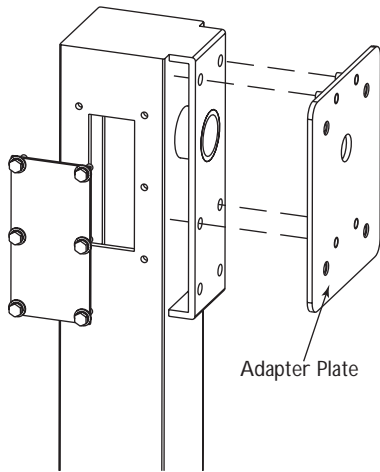

Figure 9 Aligning Adapter Plate with Mounting Plate
1. Align the holes of the AutoDome adapter plate with the holes on the mounting plate at the top of the pole (Figure 9).